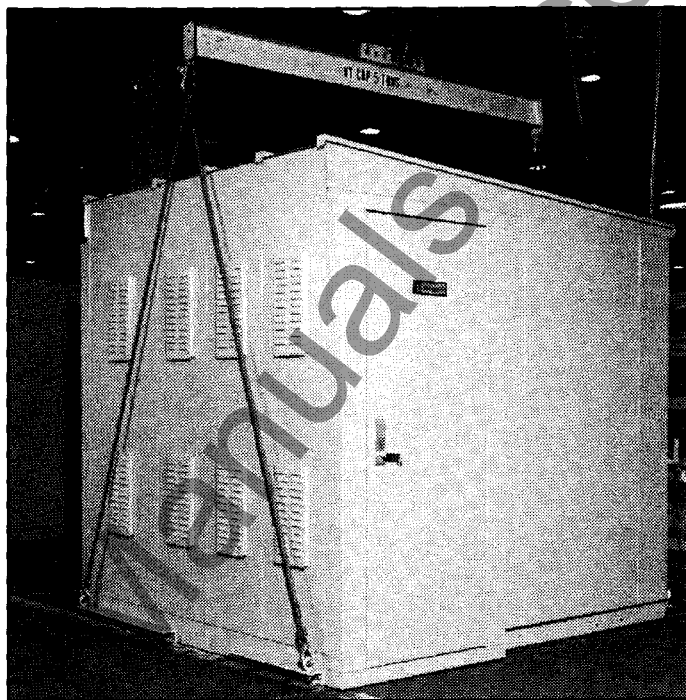

Figure 2-3 Outdoor Assembly Lifting Method
**Outdoor Assembly:** Lifting plates are attached along the assembly base at the front and rear for crane cable attachment. The methods used for lifting an outdoor assembly are similar to those used with an indoor assembly, except that spreader bars, not provided, must be placed between lift cables to prevent equipment damage (Figure 2-3). If it appears that the cables will touch the assembly during the lifting process, place appropriately sized lumber along the sides where contact could be made between the cable and the equipment. This will prevent damage caused by the lifting cables.